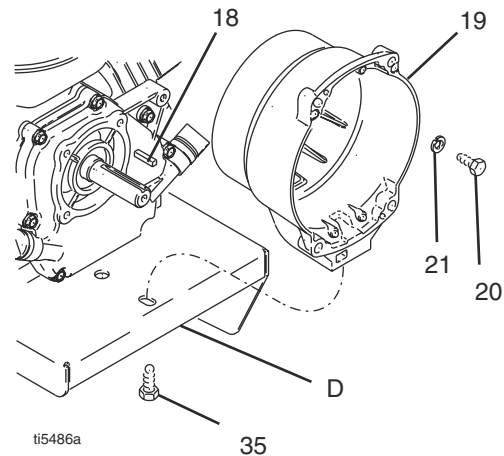

FIG. 11
1. FIG. 11. Remove four screws (20) and lock washers (21) which hold clutch housing (19) to engine.
2. Remove screw (35) from under mounting plate (D).
3. Pull off clutch housing (19).
1. FIG. 11. Push on clutch housing (19).
2. Install four capscrews (20) and lock washers (21) and secure clutch housing (19) to engine. Torque to 200 in-lb (22.6 N·m).
3. Install screw (35) from beneath mounting plate (D). Torque to 26 ft-lb (35.2 N·m).